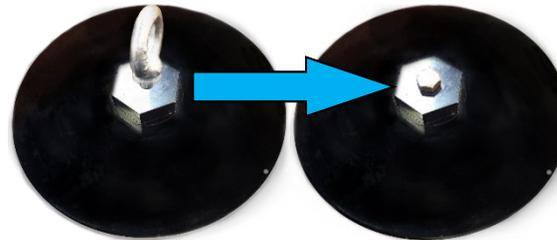

Figure 2-83. VariStroke Eyebolt Removal
73. Unscrew the eyebolt from the VariStroke counter cover (use **2 1/4 in** open end wrench) (Figure 2-83).
74. Screw the bolt into the newly installed VariStroke cover (use **3/4 in** open end wrench: **40-60 LBFT (54-81 Nm)** while using another wrench (use **2 1/4 in** open end wrench) to hold the cover in place and prevent rotation while the nut is tightened (Figure 2-83).